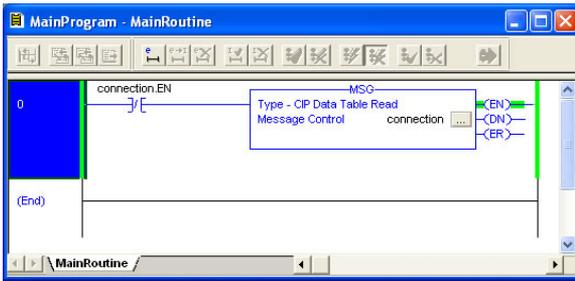

Figure 108: Complete Program
6) The program is now complete. Refer to Figure 108.